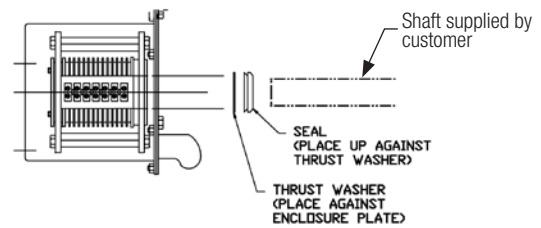

Figure 2
2.3.2.3 For an enclosed slip ring assembly supplied without a shaft and mounting flange, the assembly is to be mounted onto a shaft as described in the mounting section 2.3. On a flat based style enclosed assembly with a bolted top hat style cover, access to the two 0.25-20 drive collar set screws can be gained by removing the bolted cover from the flat base of the assembly. On the two piece style enclosure without a flat base, access to the two 0.25-20 drive collar set screws can be gained by removing the plug on the side of the bolted base cover of the assembly. The factory supplied thrust washer/seal kit are to be installed onto the mounting shaft before installation (see figure 2). The seal is to be installed first with the outer lip facing the thrust washer and the thrust washer is to be installed second. After the shaft is installed, the thrust washer is to be placed up against the outside of the enclosure cover and the seal up against the washer.